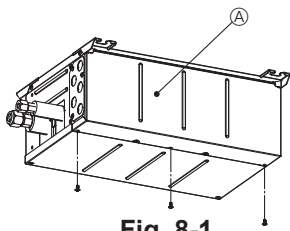
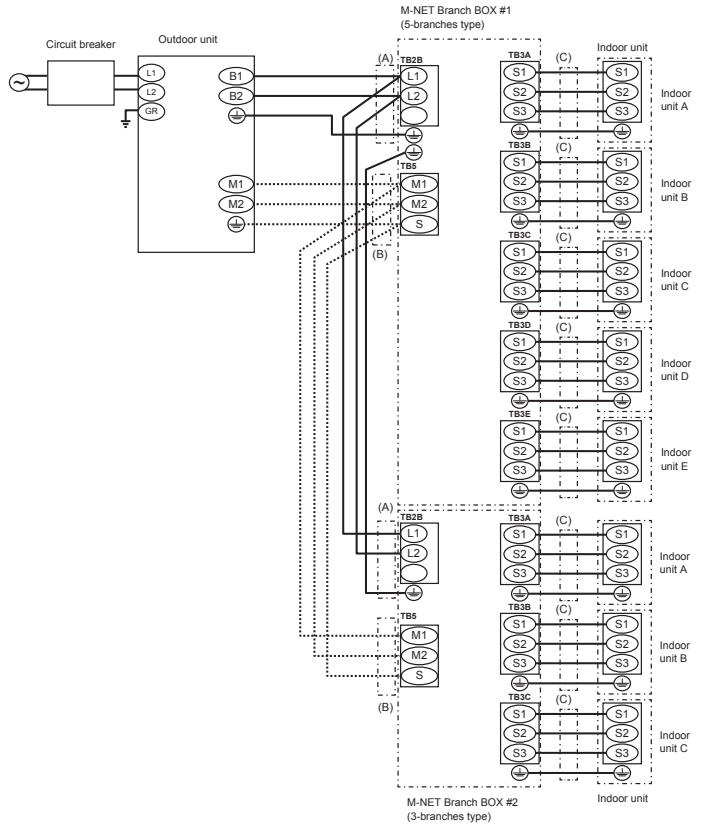

Fig. 8-1
Fig. 8-9
- (1) Remove the electric cover. (Fig. 8-1)
- (2) Remove the conduit cover.
- (3) Pass the wiring into the branch box through the conduit plate and fix with the conduit plate. (Refer to 8.1.)
- (4) Firmly connect each wire to the appropriate terminal block. (Fig. 8-9)
- (5) Set dip sw. (Refer to 8.3.)
- (6) Replace the electric cover.
## 8.2. External wiring procedure (Fig. 8-9)